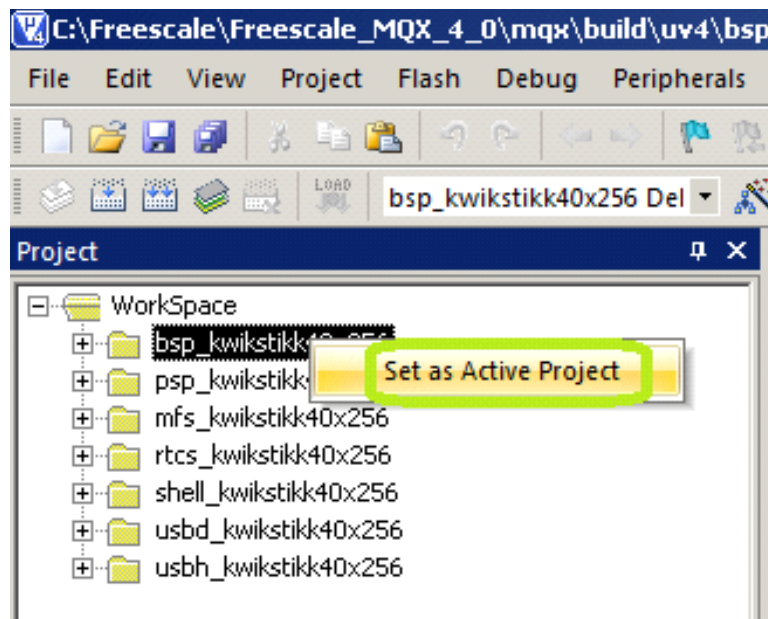

Figure 5. Set the Active project
6. Set “bsp\_kwikstikk40x256” as the active project (right click on the selected item – Figure 5).